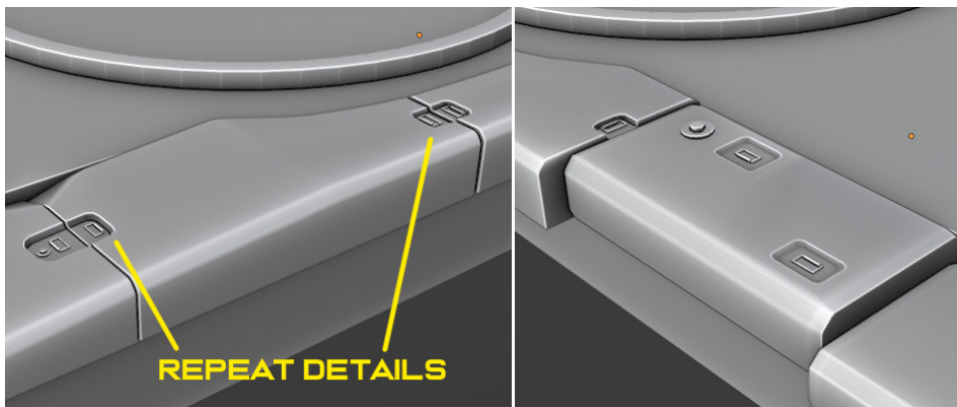

Figure 8.19 – Box details
9. Fill the hole with details and repeat on both sides of the box. We are using this box to replace the basic shapes that we created at the sides of the hull. *Figure 8.19* shows some detailed ideas that can be created here.